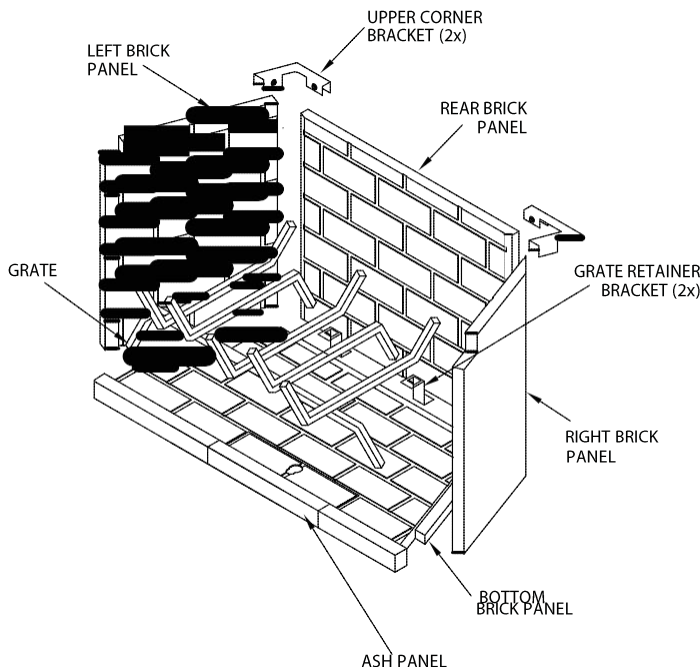

Figure 21 - Installing Refractory Panels
6. Install the upper corner brackets and tighten set screws (Figure 21).
7. Install grate by placing rear legs into slots in the grate retainers (Figure 21).